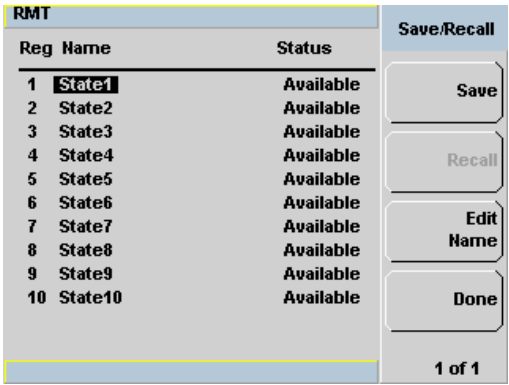

Figure 2-37 Save/Recall screen
- 1 Press , **Save/Recall** to display the **Save/Recall** screen as shown in Figure 2-37.